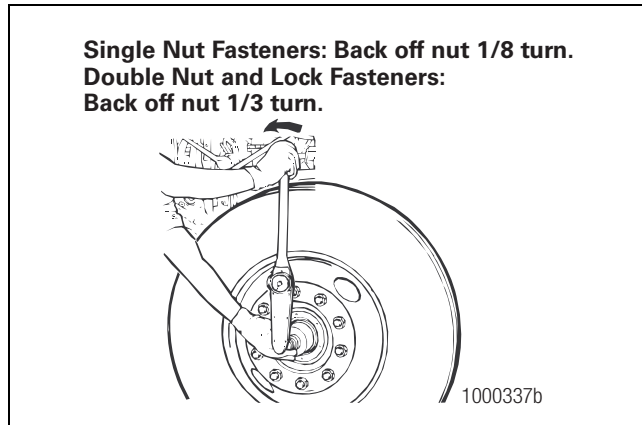

Figure 7.6
- Back off the adjusting nut 1/8 turn. Figure 7.6.
- A. Back off the adjusting nut. Figure 7.6.